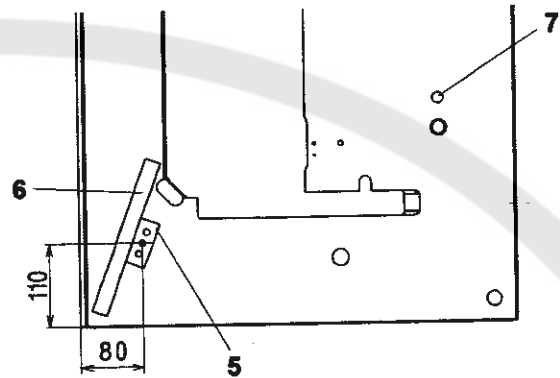

Fig. 8
#### 5.1.1 Mounting and placing of the machine head on the stand (Fig. 8)
Remove the supporting pin from the table top (Fig. 8, pos. 7), insert the cover caps (7) into the holes.